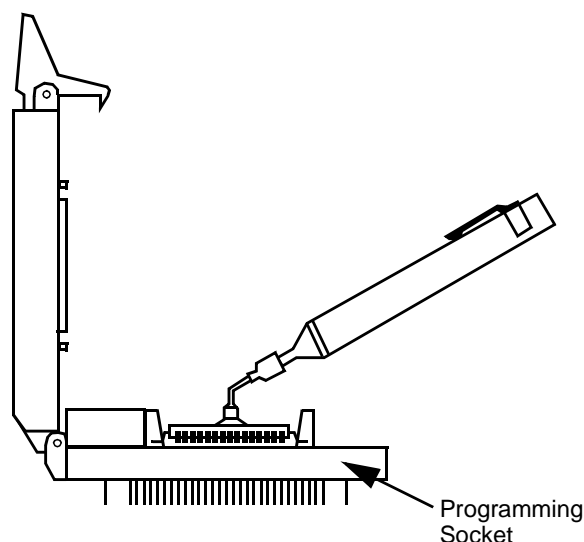

Figure 3 • Inserting the Device in the Socket
1. Carefully align the device with the socket and gently lower the device into the socket (see Figure 3).